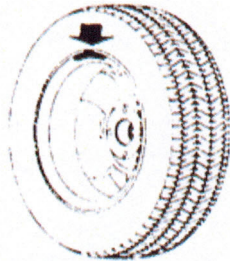

Fig. 10-8
3. Slowly spin wheel, when inside counterweight position indicator light (figure 5-1(3)) all on, clip correspond counterweight on 12 o'clock position on inside of rim, ect figure 10-8.